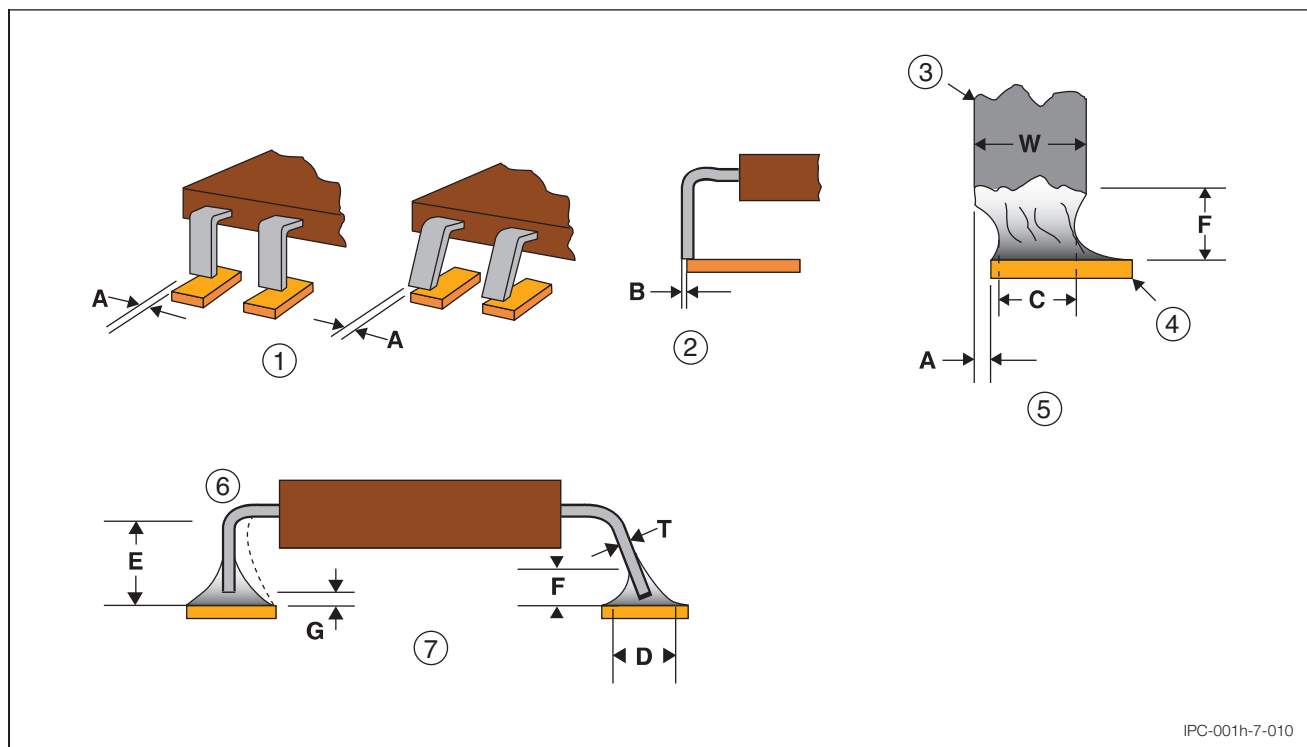

Figure 7-10 Butt/I Terminations for Modified Through-Hole Leads
7.5.10.1 Butt/I Terminations – Modified Through-Hole Terminations Components designed for pin-in-hole application and modified for butt connection attachment, or stiff-leaded dual-inline packages, e.g., Alloy 42, brazed or tempered leads, may be modified for use on Class 1 and 2 products but **shall not** [N1N2D3] be used on Class 3 products. Connections formed to leads positioned perpendicular to a circuit land in a butt/I configuration **shall** [D1D2D3] meet the dimensional and solder fillet requirements of Table 7-10, see Figure 7-10.